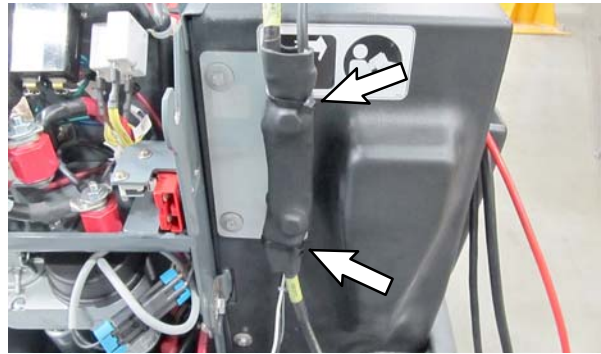

Fig. 11
14. Use the two wire ties (6) on the shunt bracket (7) to secure the shunt (8) and the telemetry harness (16) battery connector to the shunt bracket. (Fig. 11)